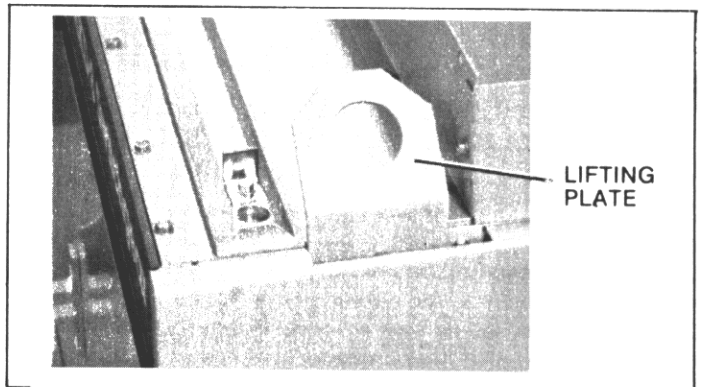
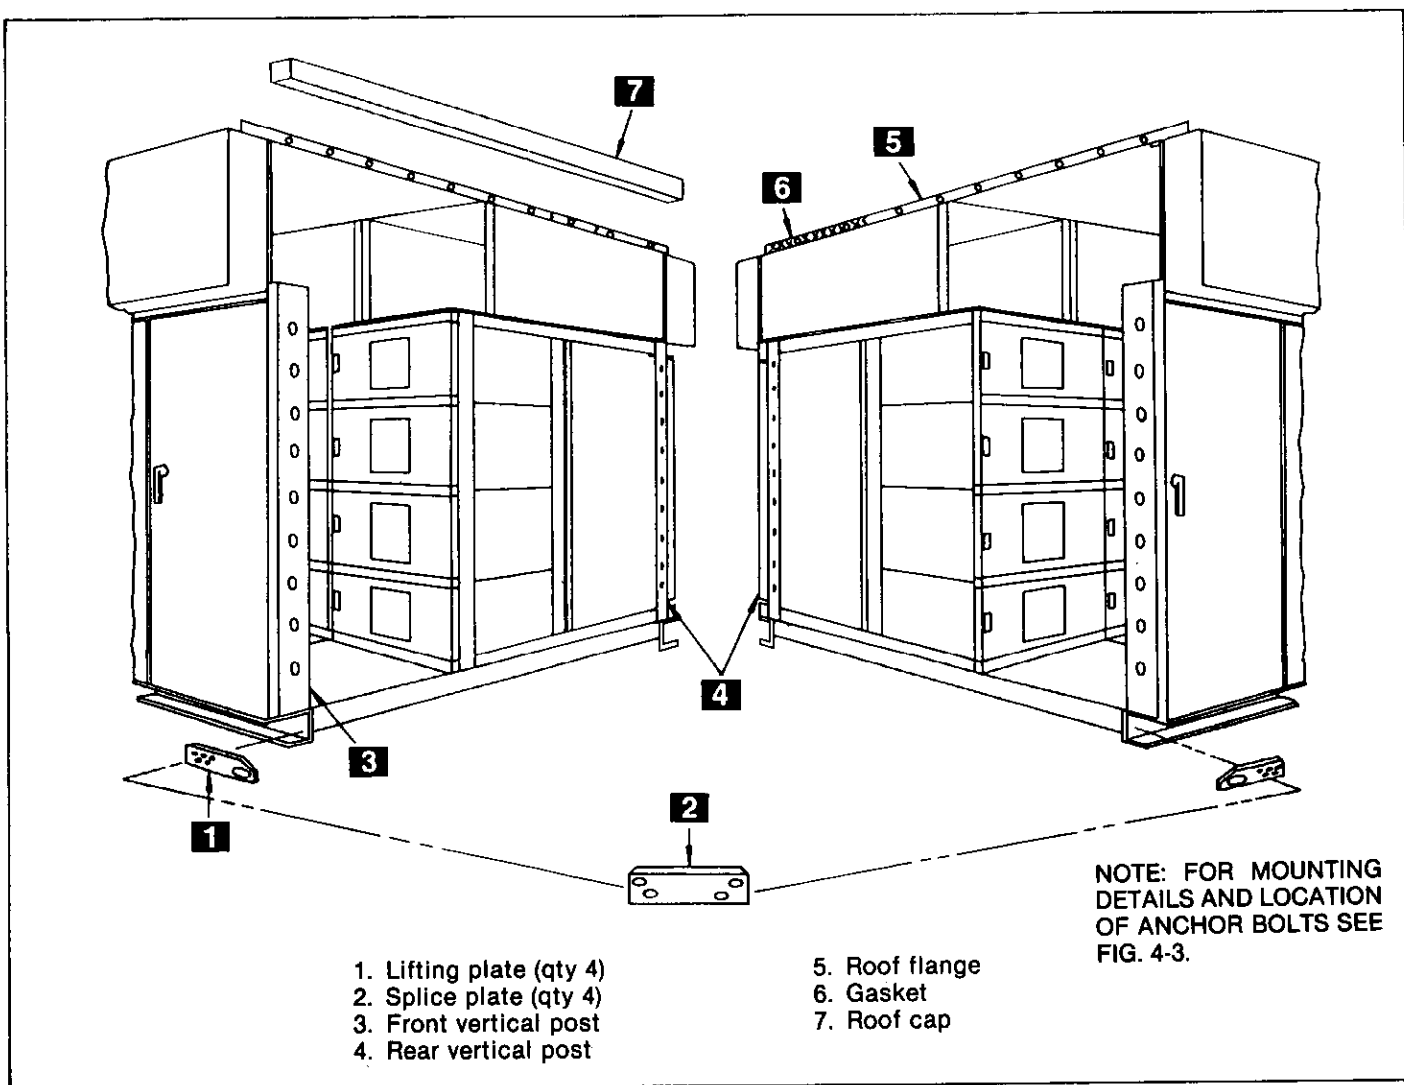
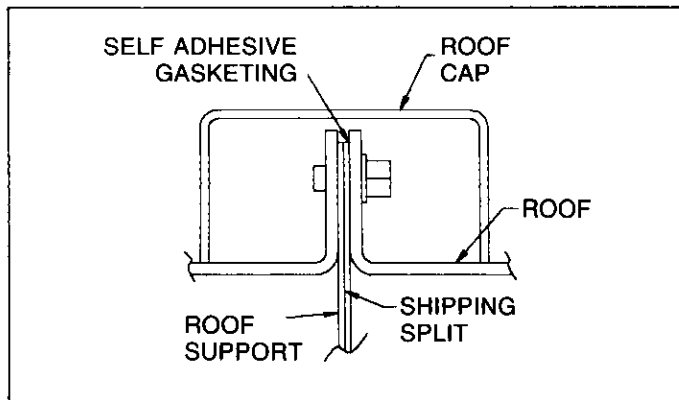

Fig. 4-5. Lifting plate location
Fig. 4-16. Outdoor enclosure shipping split assembly
Fig. 4-17. Cross-section view of assembled roof joint
NOTE: If the equipment line-up was split into shipping sections, the lifting plates on corners of adjacent sections shown in Fig. 4-5 must be removed. Failure to remove these plates will interfere with mating adjacent sections and prevent installation of bus splice plates, structure tie plates, etc.
2. **APPLY GASKET MATERIAL**—After removal of the lifting plates (see Fig. 4-5), it is necessary to apply the self adhesive gasketing material (6), Fig. 4-16, to the mounting surface of the roof flange (5). The gasket material is supplied with the equipment.
4. **FASTEN SECTIONS TOGETHER**—Referring to Fig. 4-16, the mating sections of the outdoor enclosure should be immediately bolted together including the front (3) and rear (4) vertical posts and the roof flange (5). Each vertical post will require ten $\frac{3}{8}$ -16 NC x 1-inch bolt assemblies; the roof flange will require either eleven or twelve $\frac{3}{8}$ -16 NC x $\frac{1}{2}$ -inch bolt assemblies. The bolts should be tightened with a torque of 25-30 ft-lbs. Figure 4-17 is a cross-sectional view of the assembled roof joint.
5. **TIE HOUSING BASES TOGETHER**—Referring to Fig. 4-16, tie the bases of the outdoor housing together using the splice plate (2) supplied with the equipment and the bolts which previously secured the lifting plates (1) removed after emplacement of the equipment. The nuts are welded to the rear surface of the base. The bolts should be tightened with a torque of 45 ft-lbs.
6. **INSTALL THE ROOFCAP**—The roofcap (7), Fig. 4-16, should be installed over the sealed and fastened roof flange assembly (5). The roof cap is secured in place with two 1/4-20 NC x 1/2-inch thread forming bolts, each at the front and the rear ends of the roof cap. These bolts should be tightened with a torque of 7-9 ft-lbs.